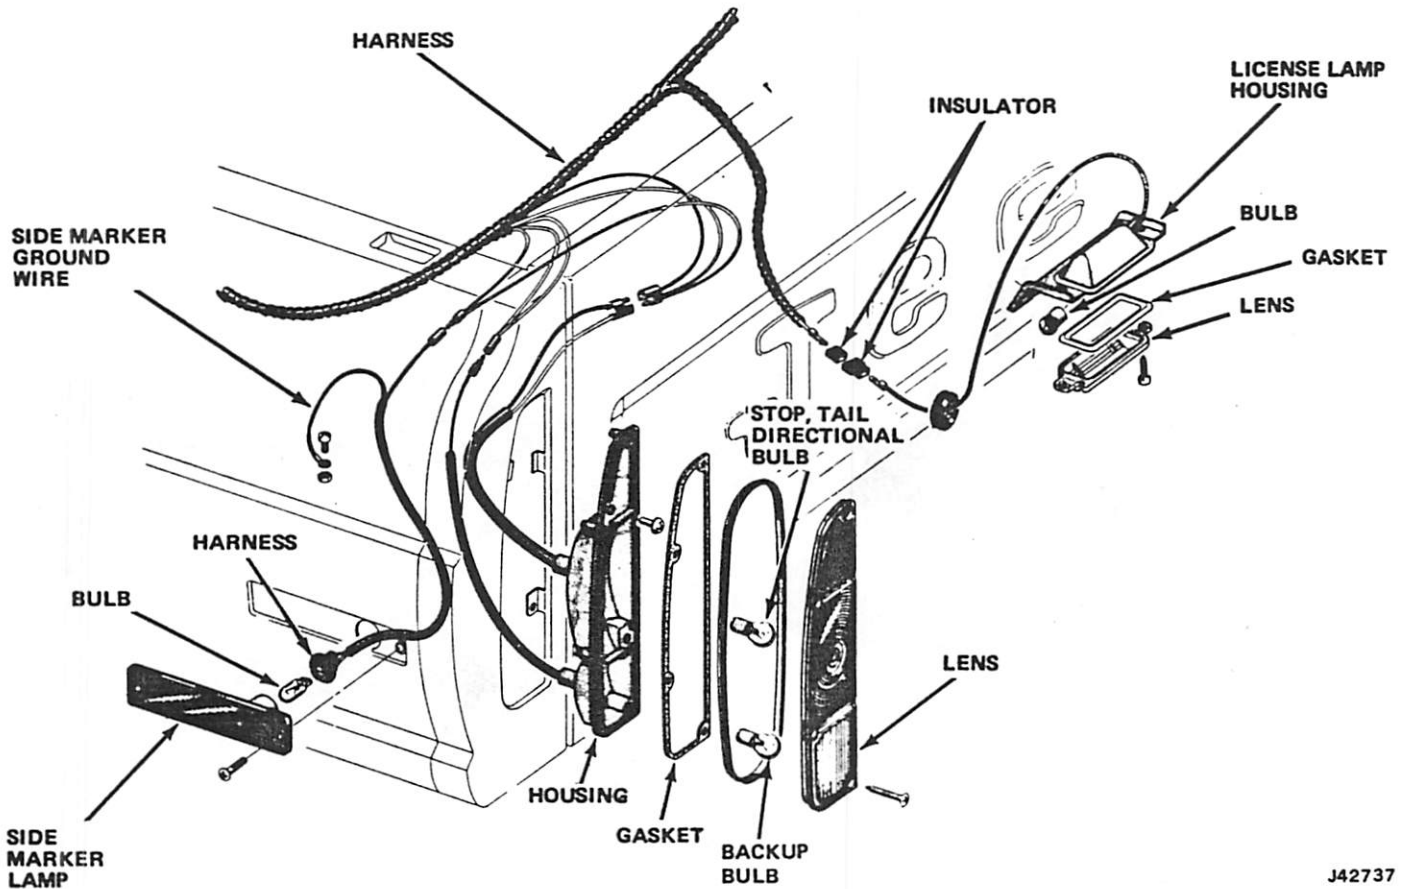

Fig. 3R-10 Rear Directional, Stop, Backup, Tail lamps and Side Marker—Townside Truck
- (5) Remove steering wheel with Steering Wheel Puller J-21232-01.
- (6) Lift lock plate cover.
- (7) Use Lock Plate Compressor Tool J-23653 to depress lock plate (fig. 3R-12).
- (8) Pry round wire snap ring from steering shaft groove.
- (9) Remove Lock Plate Compressor Tool, snap ring, lock plate, directional signal canceling cam, upper bearing preload spring and thrust washer from steering shaft.
- (10) Place directional signal actuating lever in right turn position and remove lever.
- (11) Depress hazard warning light switch, located on right side of column adjacent to the key lock, and remove button by turning in a counterclockwise direction.
- (12) Remove directional signal wire harness connector block from its mounting bracket on right side of lower column.